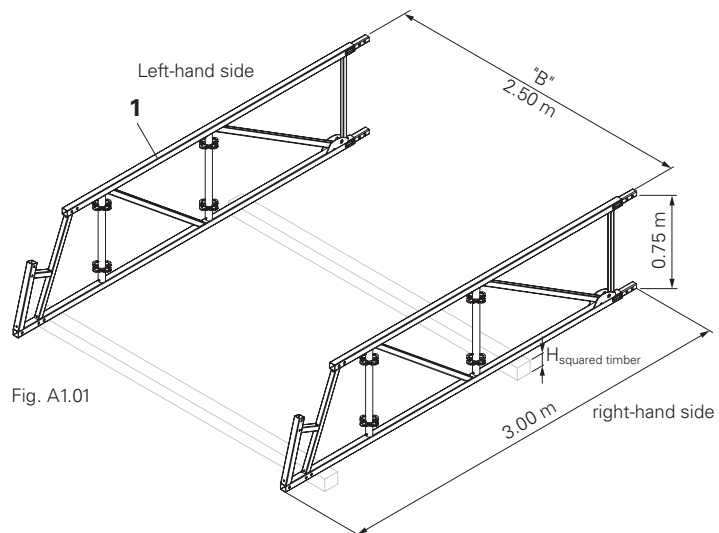

Fig. A1.01
- If a tension system is required, use squared timber as a means of support with height " $H_{\text{squared timber}} \geq 16 \text{ cm}$ ". (Fig. A1.01)
1. Place eave element (1) on two crosswise positioned squared timbers.
- Squared timbers are used as support during assembly. (Fig. A1.01)